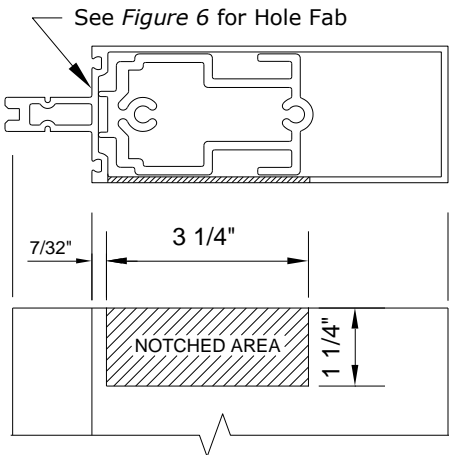

Figure 16: Horizontal Layout & Last Bay Notch
NOTE: If roll-over horizontals are used, all vertical mullions can be installed first. If tubular horizontals are used, the wall must be stick erected. Last bay tubular horizontals must be notched. See Figure 16. Option: Use roll-over horizontals at last bay to avoid notch.
***NOTE:** If roll-over horizontals are used, all vertical mullions can be installed first. If tubular horizontals are used, the wall must be stick erected. Last bay tubular horizontals must be notched. See Figure 16. Option: Use roll-over horizontals at last bay to avoid notch.*
- 11.1 See *Figure 16* as a guide for horizontal layout. Seal around shear blocks prior to installing each horizontal mullion. See *Figure 17*. Install horizontal mullions as shown in *Figure 17*. Prior to attaching fasteners, make sure sealant has been forced out of the holes in horizontal. If not, apply a liberal amount of sealant into each hole. Secure horizontals to shear block with two (2) FS-7 fasteners at each end of horizontal. Check head of fastener to insure proper seal.